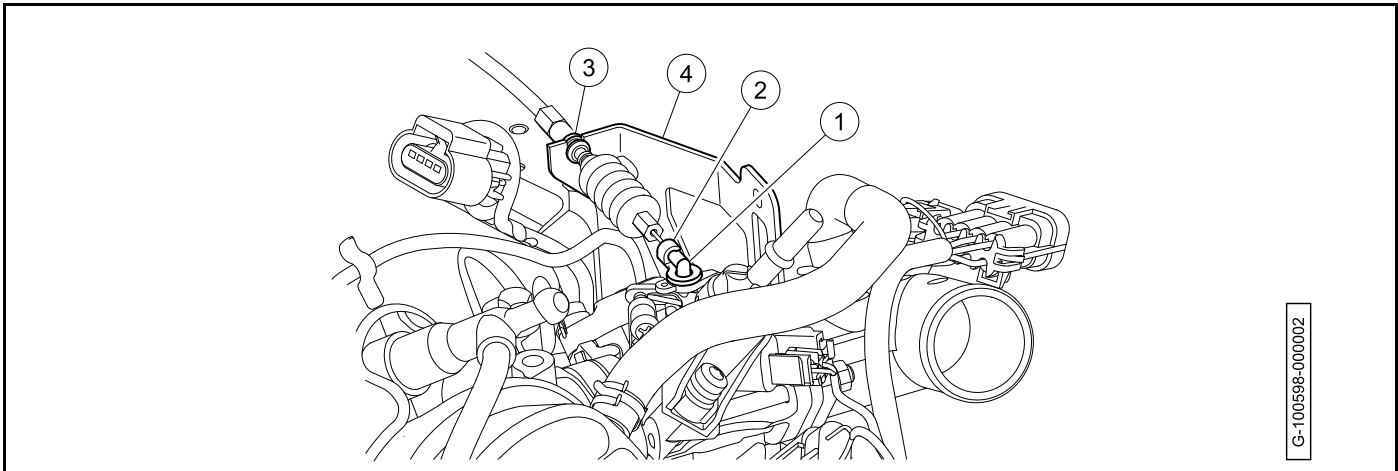

Figure 21-3 Governor Cable Installation - Throttle Body
1.1. Snap governor cable into throttle body bracket (4) (**Figure 21-3, Page 21-4**).